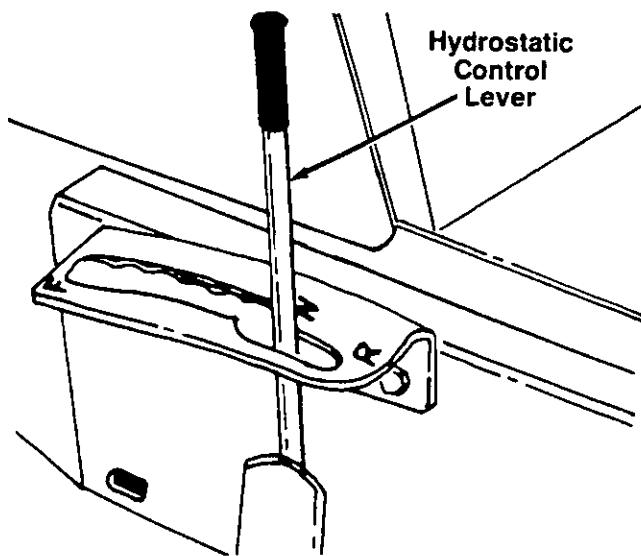

FIGURE 11.
A single control lever connected to the hydrostatic transmission controls both the speed and direction of the tractor. Infinite speed control is achieved by moving the control lever forward or backward. The farther forward or backward you move the control lever, the faster you will travel. Pulling the control lever into neutral (N) area will stop the tractor. To increase rear wheel torque (pulling power), move the control lever towards neutral (N) position. The lawn tractor responds similar to shifting to a lower gear with a gear type transmission. See figure 11.